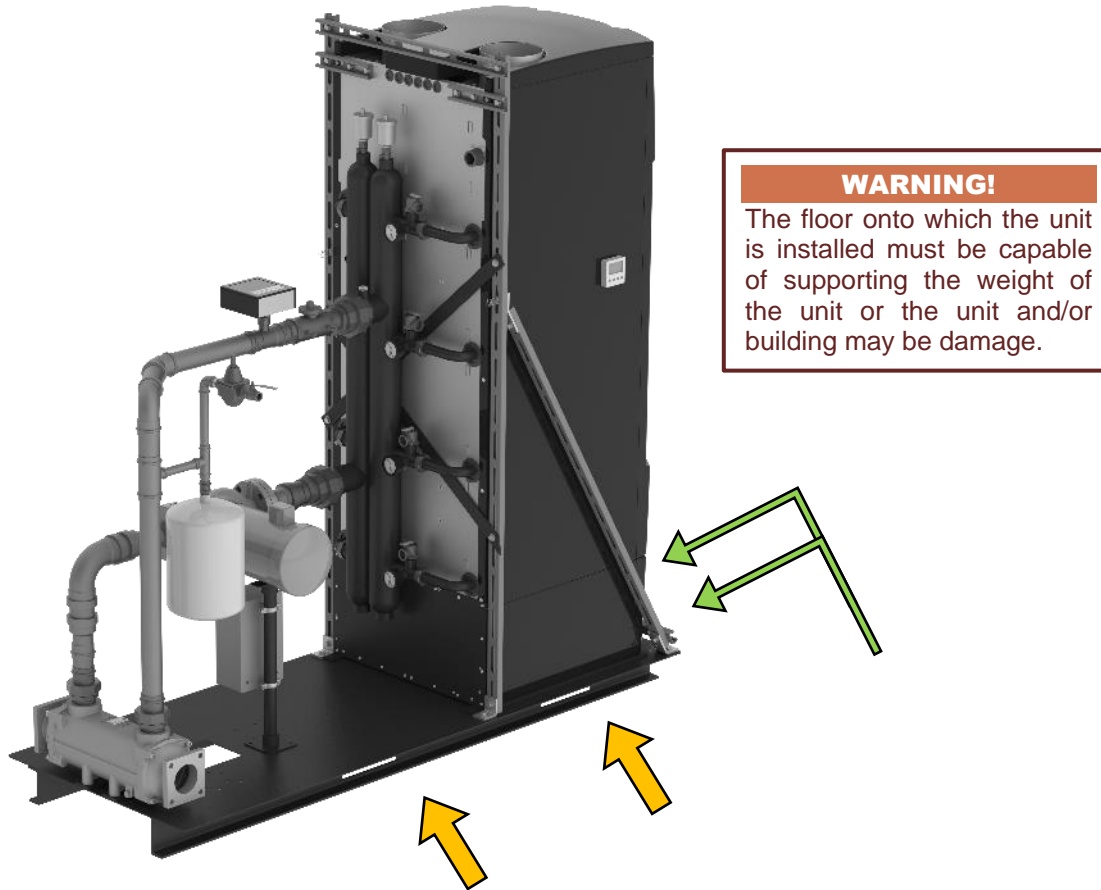

Figure 3-2: Transporting the AM Series Pool Heater
The AERCO AM pool Heater must be moved **ONLY** with a forklift through the supporting skid, as shown in Figure 3-2.
1. Remove the two (2) 3/8-16 hex cap screws, washers, and nuts attaching the front of the assembly skid to the wooden pallet, and then remove the same hardware at the rear of the unit.
2. Once the assembly is disconnected from the pallet, transport using a fork lift inserted into the skid, at front (green arrows); or at the sides (yellow arrows), as indicated by in Figure 3-2.